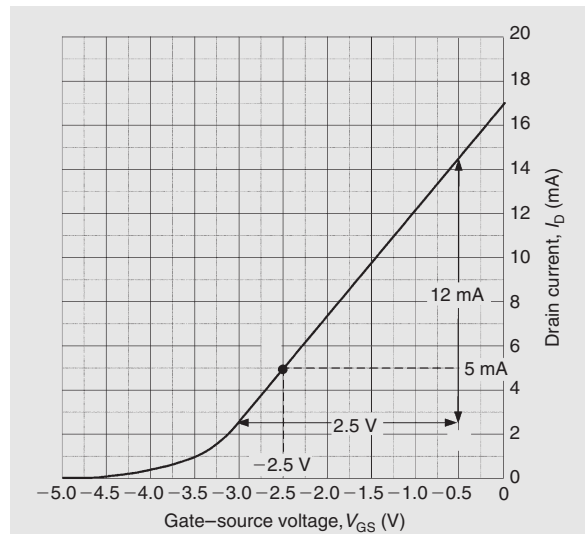

Figure 12.20
Problem 8. Fig. 12.20 shows the mutual characteristic for a junction gate field effect transistor. When the gate-source voltage is -2.5 V, determine (a) the value of drain current, (b) the dynamic value of forward transconductance.
- (a) From Fig. 12.20, when $V_{GS} = -2.5$ V, the **drain current, $I_D = 5$ mA**
- (b) From Fig. 12.20